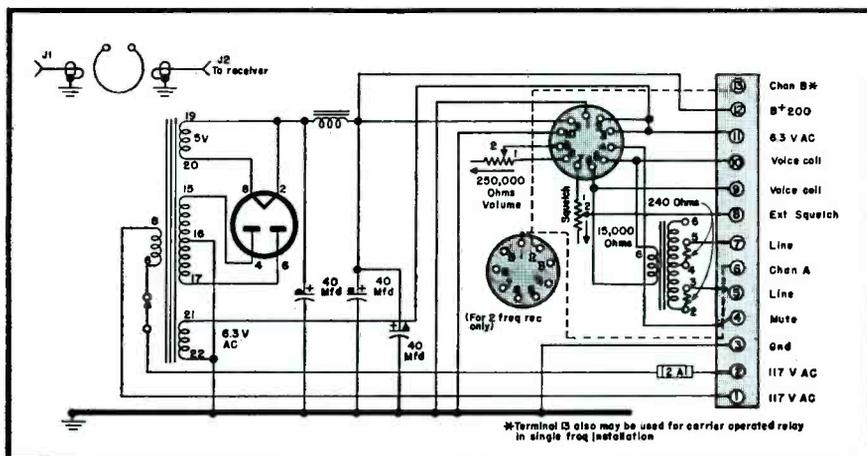

Fig. 2. Diagram of the power supply for the 2-way 450-470 mc receiver.
**Figs. 1 and 2.** Chassis of a 450-470 mc transmitter appears in Fig. 1 (top), while Fig. 2 illustrates receiver chassis for same band.